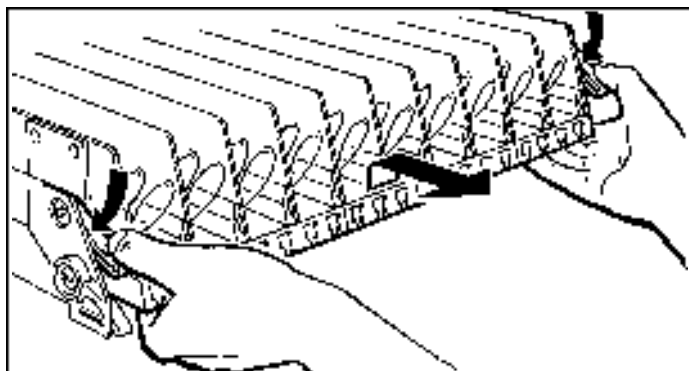

Figure 1. MOVING SHELF TO LOADING POSITION.
4. **LOADING SNACK SHELVES:** Open door to full open position, push down on white plastic lock lever (Figure 1) to unlock shelf, holding both levers down. Grasp the shelf slightly and pull forward until shelf reaches its stop. The shelves tilt down (do not drop) to make loading easier. **Only one product shelf should be in the loading position at a time.** When returning a shelf, be sure the shelf is in its full home or vend position. Begin loading with the top shelf. Move it to the loading position. The height spacing for items is greatest in this shelf and the tallest bagged items should be placed there. Soft items, such as pastry, pies, etc., should be placed in the lowest snack shelf, making the drop distance as short as possible.